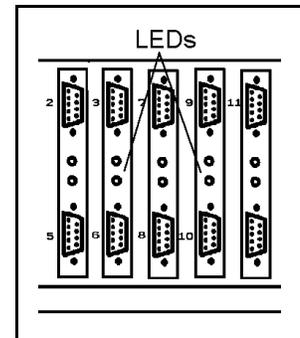

Figure 8-2: Driver Card LEDs
- Check whether all driver card LEDs on the controller rear panel are lit. (See Figure 8-2.) Each driver card has a pair of LEDs: the upper LED corresponds to the axis number at the top of the card; the lower LED correspond to the axis number at the bottom of the card.